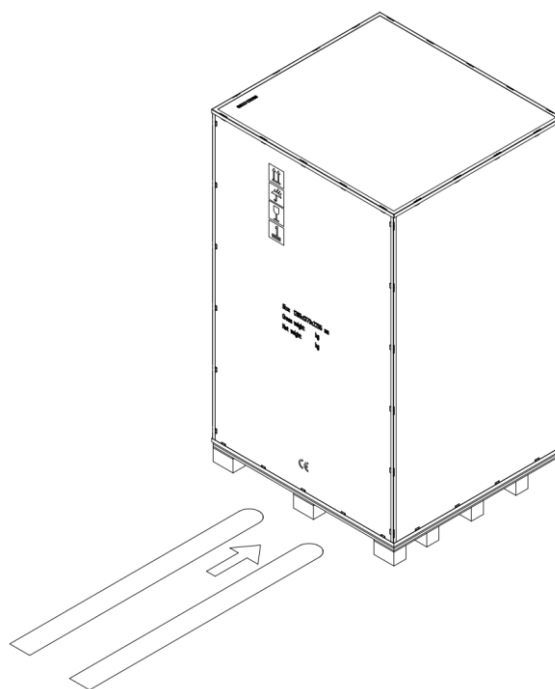

Figure 3-38 Transport the equipment to the designated location
Step 2: Use a forklift to transport the equipment to the designated location, see Figure 3-38;